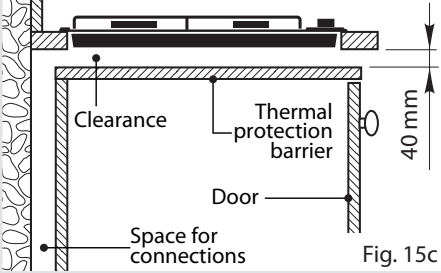

Fig. 15c
- If the cooktop is installed directly above an oven (which does not have a cooling fan motor) or if its base is accessible through a cupboard or drawer space after installation, a thermal protection barrier must be installed below the base of the cooktop as indicated in fig. 15c.